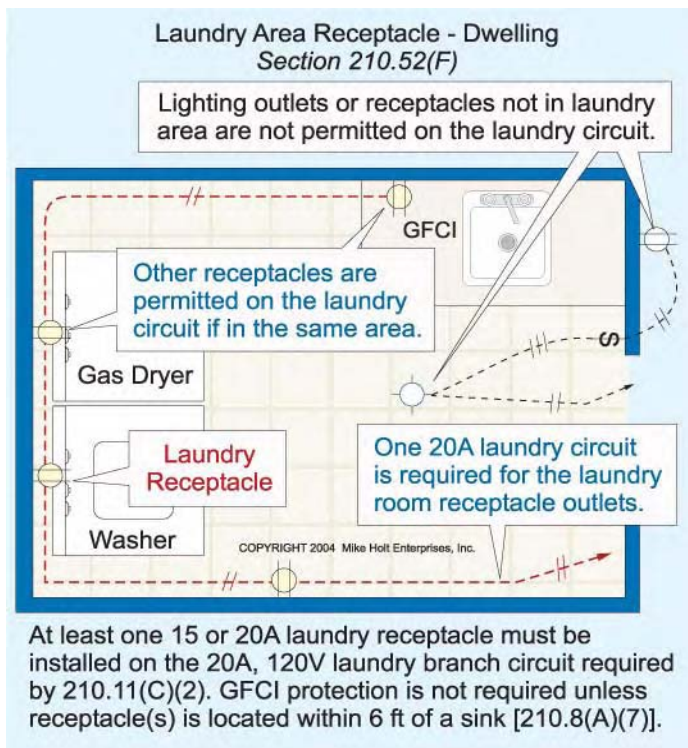

Figure 210–63
(F) Laundry Area Receptacle—Dwelling Unit. Each dwelling unit must have not less than one 15 or 20A, 125V receptacle installed in the laundry area. This receptacle(s) must be supplied by the 20A, 120V laundry branch circuit, which must not supply any other outlets [210.11(C)(2)]. **Figure 210–63**